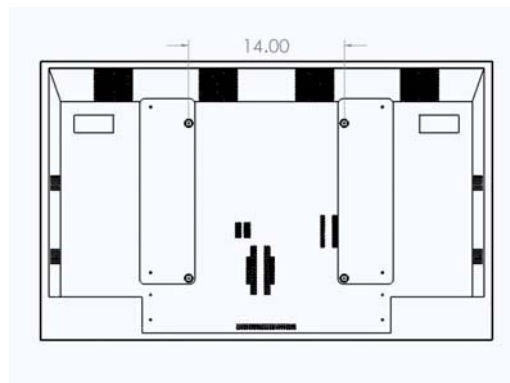

Figure 2
2. Attach mounting brackets to plasma display as shown utilizing the M5 button head cap screws. (See Figure 2)